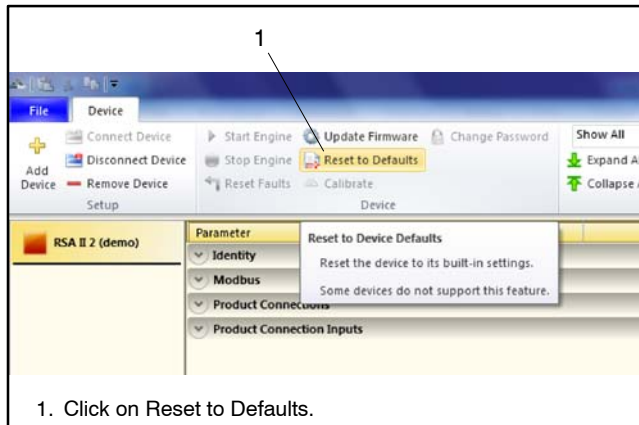

Figure 12-7 Reset to Defaults Command
1. Click on Reset to Defaults on the top ribbon. See Figure 12-7.